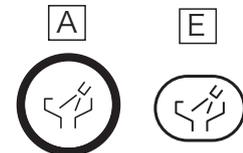

Fig.3-5 Bowl Flush Switch
③ Bowl Flush Switch (Fig.3-5) [A] [E]